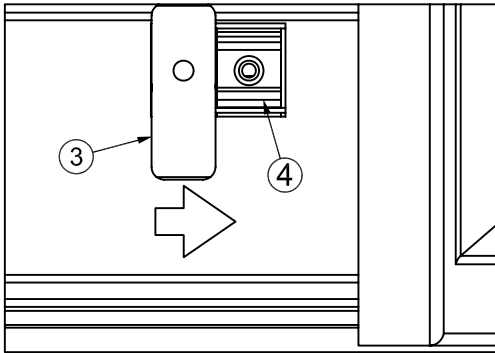

Fig. 6
7. Slide J-hook receiver (#3) over the J-hook (#4) by sliding the tab on the J-hook receiver under the lower support on the J-hook. (See Fig. 6)